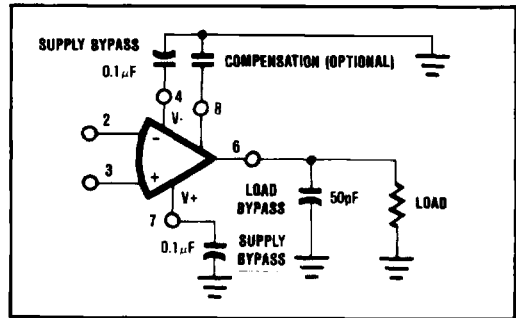
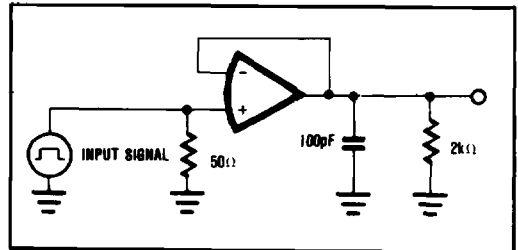

FIGURE 1. Compensated Amplifier with Supply Load Bypassing.
FIGURE 3. Dynamic Response Test Circuit.
1. Capacitance values shown are compensation from pin 8 to common. Not required for stability. See Figure 1. 2. See Figure 3.
The frequency response of the OPA11HT can be adjusted by use of an external compensation capacitor from pin 8 to common as shown in Figure 1. The open-loop frequency response curves illustrate the effect of various values of capacitance. The OPA11HT is stable at any gain level without the use of compensation, provided that stray wiring capacitance and/or load capacitance are not excessive, and that moderate values of feedback resistance are used ($R_{FB} \leq 10k\Omega$). A load capacitance of $\approx 50pF$ is desirable in all feedback configurations.
Because the OPA11HT is an extremely-fast amplifier with high gain, stray wiring capacitance and inductance in power supply leads can cause circuit oscillation. This can be prevented by proper circuit layout (all leads or patterns as short as possible) and by properly by passing the power supply lines to common at points close to the amplifier. In addition, it is recommended that the load be bypassed by a 50pF capacitor, see Figure 1.
The test circuit of Figure 3 is used for measurement of slew rate, settling time, rise time and overshoot. Both rise time and overshoot are measured for a small output signal ($V_{OUT} = \pm 100mV$). Slew rate and settling time are measured for a 10V, p-p, square wave.